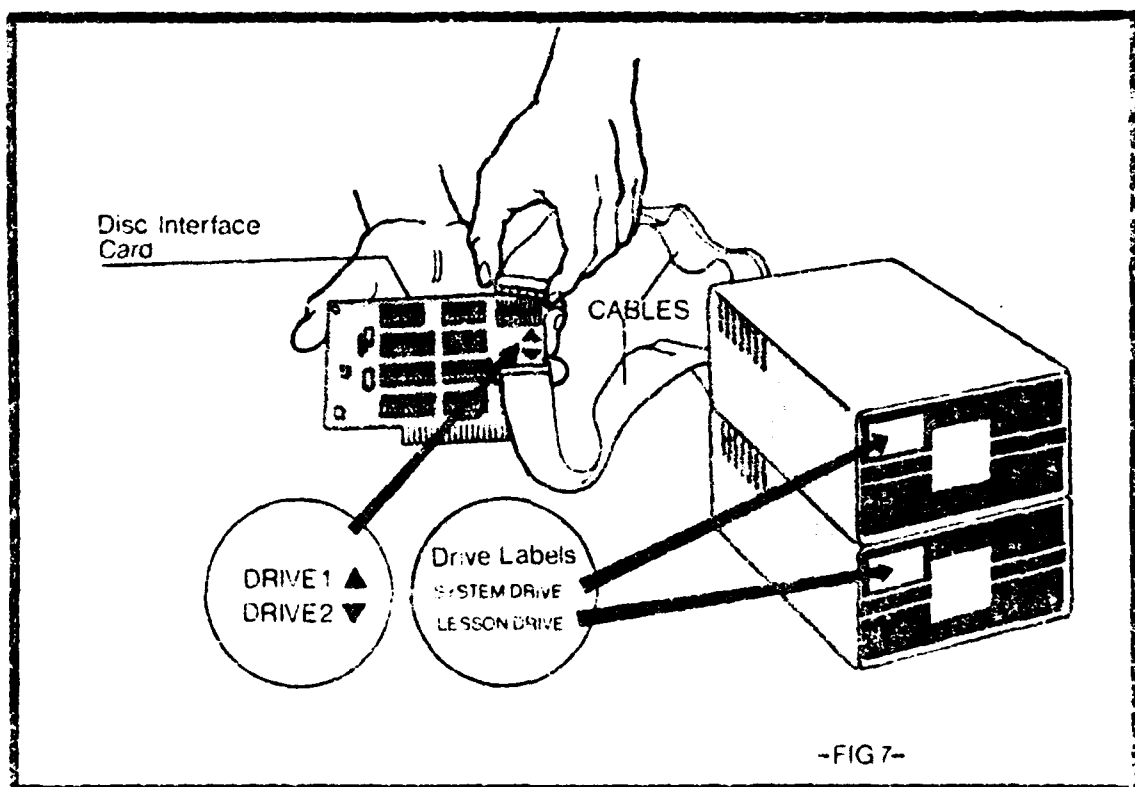

Figure 3-7. Labeling the disk drives and plugging the drives into the controller card.
3.5.1 Task 1: Label diskette drives. First, label the two diskette drives. Place the label "SYSTEM Drive" on the front of one drive and label "LESSON Drive" on the other drive (See Figure 3-7).
A cable shaped like a "ribbon" is attached to each diskette drive. The flat, 1-inch wide cable has a plug on the end. Take the plug on the "LESSON Drive" and push it onto the set of pins labeled "Drive 2" on the controller card. When the cable is plugged into the controller card correctly, the cable should leave from the connector on the side away from the controller card as shown in Figure 3-7 p. 18; do not jam the cable between the connector and controller card when plugging into the controller card.